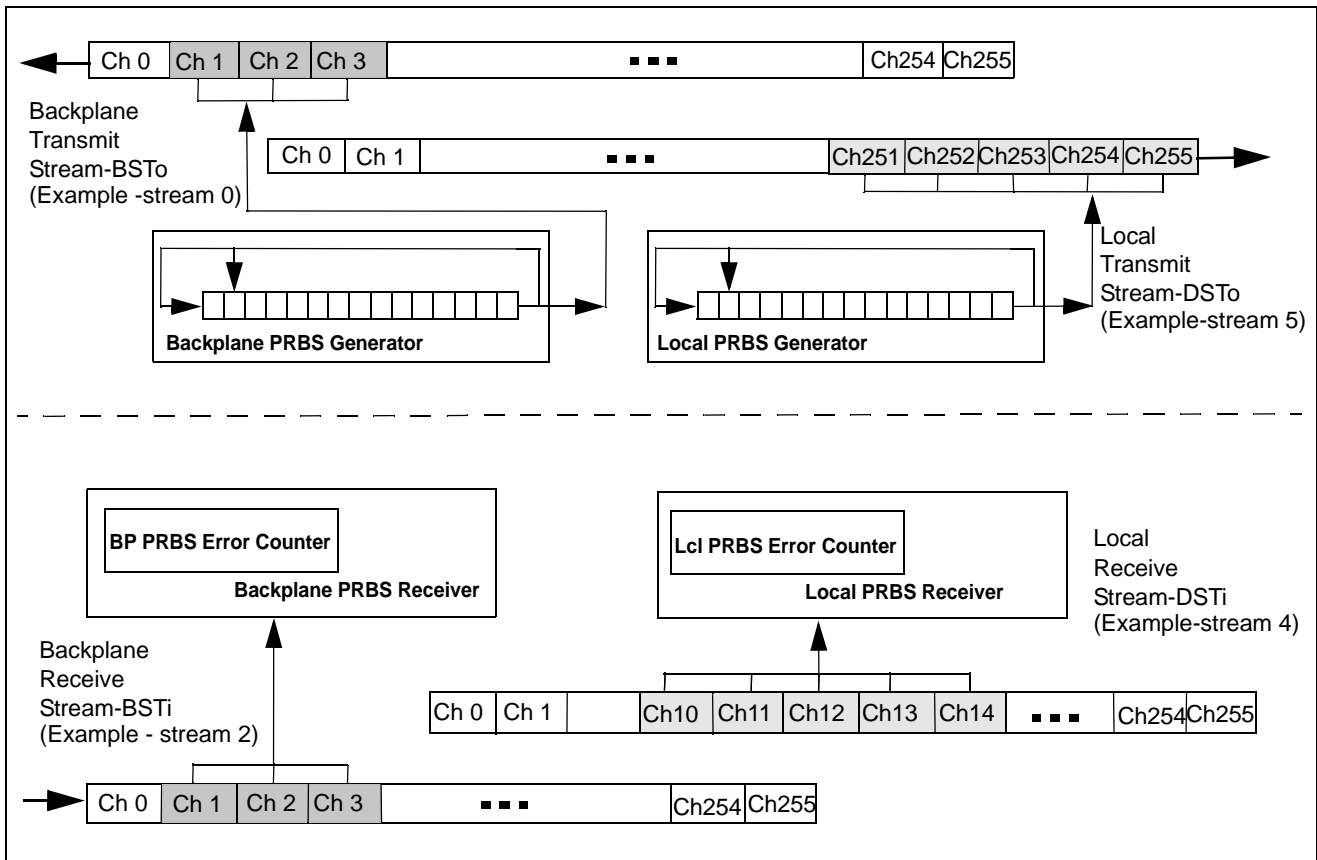

Figure 2 - MT90869 BERT Implementation
Two separate BER test mechanisms are provided for the Local and Backplane ports. In both ports there is a BER transmitter and a BER receiver. The transmitter generates a $2^{15}-1$ or $2^{23}-1$ Pseudo Random Binary Sequence (PRBS), which may be allocated to a specific stream and a number of channels. This is defined by a stream number, a start channel number, and the number of consecutive channels following the start channel. The stream, channel number and the number of consecutive channels following the start channel are similarly allocated for the receiver. An example of the PRBS test is presented in the Figure 2. In this figure, the BERT is enabled on channels one, two and three of the selected stream - for example stream 0. Also, an assumption is made that the backplane stream 0 is physically looped back to backplane stream 2.
A programming example for setting up the backplane BERT test as shown in Figure 2 is described in this section. The same steps should be followed for running the BERT on the local side.
2. Program the Backplane BER Start Send Register - BBSSR (0x00C8) with desired backplane stream and start channel for BERT sequence. For the backplane stream 0 from Figure 2, the content should be 0x0001.
3. The register Backplane Transmit BER Length Register - BTxBLR (0x00C9) contains the number of consecutive transmit channels that follow the start channel and that contain the transmit PRBS sequence. For the backplane example from figure 2, the content of the BTxBLR should be 0x0002.
4. Program the Backplane BER Start Receive Register - BBSRR (0x00CB) with desired receive backplane stream and start channel for BERT sequence. For backplane receive channels from Figure 2, the content should be 0x0401.